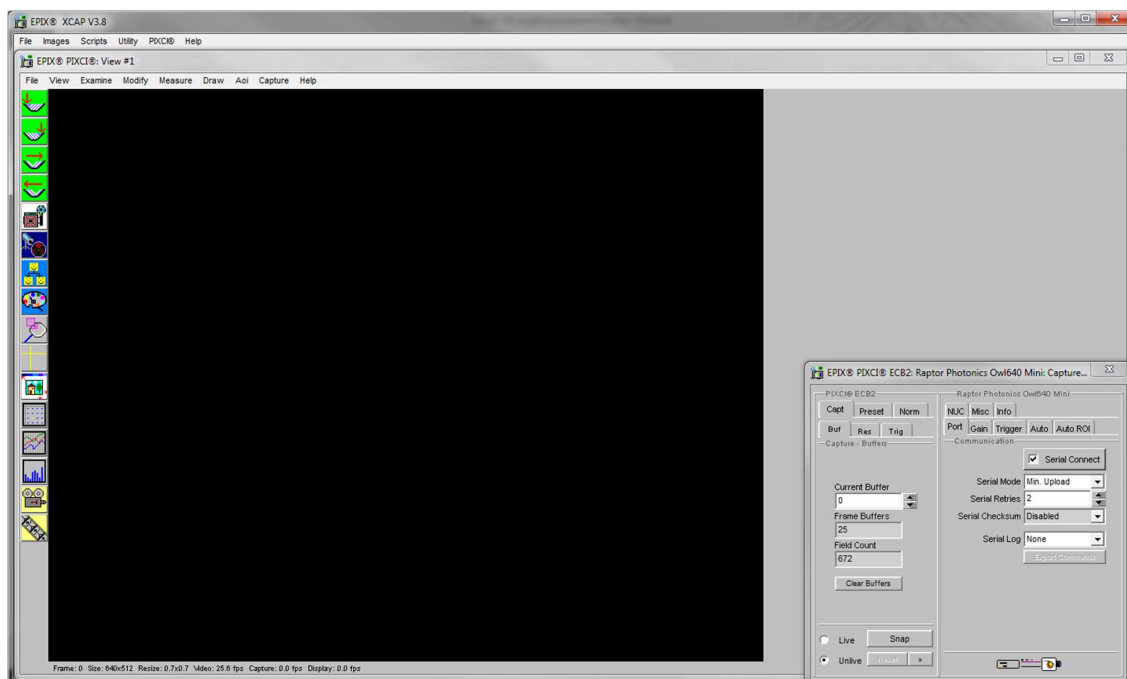

Figure 3: XCAP Camera Control Screen
5. Select Open and the viewing and control screens, Figure 3, will now open. Two windows should open (Figure 3), a viewing window (Left) and a control window (Right).